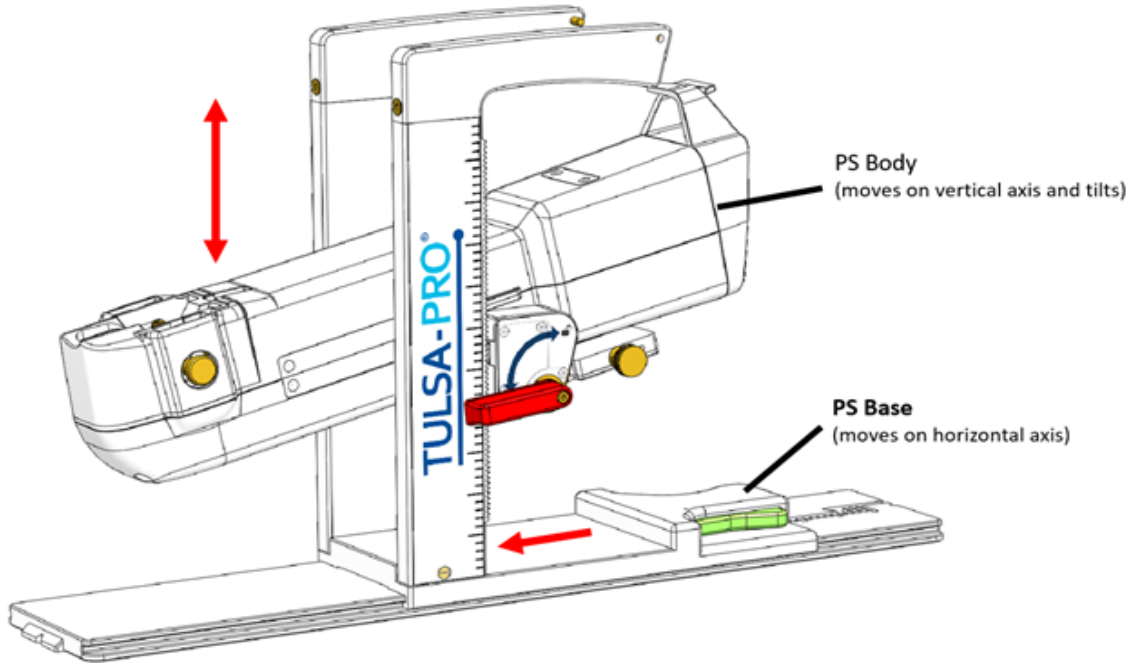

Figure 24: Adjusting the Positioning System
3. **MRI Technologist:** Manually move the PS into position so that the UA gripper aligns with the natural angle of the UA in the patient. Manually adjust the PS forward and backward, up and down, and left to right, and tilt the linear axis of the PS up and down (*Figure 24*).
NOTE: The PS adjustment knobs and levers are not colored as in *Figure 24*, but are colored here to help with these instructions.